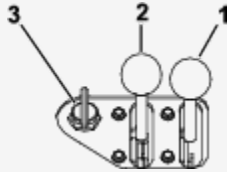

Figure 16
1. Move the throttle lever midway between the SLOW and FAST positions (Figure 16).
1. Move the choke lever to the ON position (Figure 16).
2. Turn the key to the ON position (Figure 16). When the engine starts, release the key.
3. Gradually move the choke lever to the OFF position (Figure 16). If the engine stalls or hesitates, engage the choke again until the engine warms up.
3. For Kohler engines, turn the key to the ON position (Figure 16). When the engine starts, release the key.
4. Move the throttle lever to the desired setting (Figure 16).
2. Move the throttle lever to the SLOW position (Figure 16).